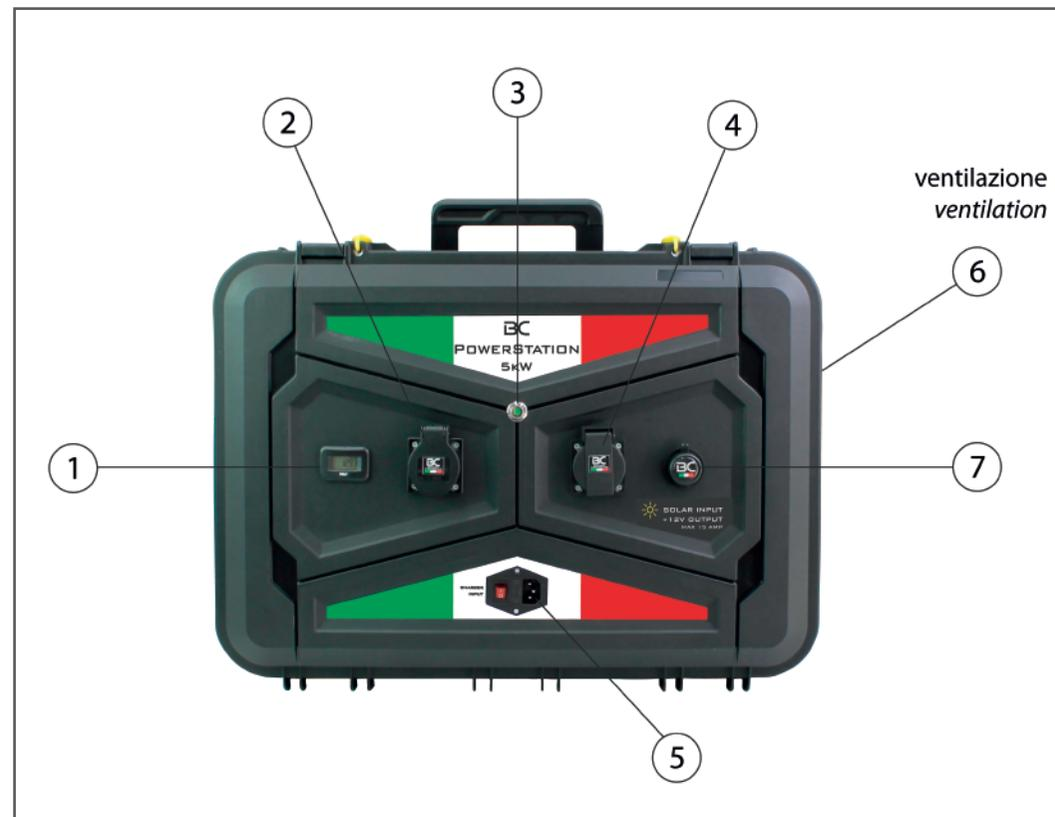

Figure 1 - BC Power Station 5kW image of the product
- The outputs (2) and (4) as well as the charging input (5) (see photo Figure 1) must never be short-circuited.
- Do not touch electrical connections and contacts (points (2), (4) and (5) of the photo Figure 1) with metal objects or with your fingers (or other parts of the body).
- Ensure that the ventilation inlets (6) (see photo Figure 1) are free from external obstacles that could hinder the correct ventilation and cooling of the product itself.
- **Do not connect multipolar sockets** to any of the two sockets (2) and (4) (see Figure 1).
The BC PowerStation 5kW device was conceived and designed for the 230Vac 50Hz power supply of mobile terminals and power tools in general (for example: drills, milling machines, lamps) from connection points (2) and (4) shown in Figure 1.
Moreover, 12Vdc cigarette lighter socket (point 7 of Figure 1) is present as well featuring the following functions:
Battery recharge protection	230Vac 0.63 A delayed fuse inserted in the power socket (point 5 of Figure 1)
Connection socket (point 2 in Figure 1)	Schuko type EU Class I 230V 50Hz 11Amp, pure sine wave
Connection socket (point 4 in Figure 1)	Italian type Class II 230V 50Hz 11Amp, pure sine wave
Connection socket (point 7 in Figure 1)	Fuse protected connection to the battery internal to the device. Maximum current : 15 Ampere.
With reference to the image shown in Figure 1, the following salient elements of the product can be found:
Afterward, connect the tools to the connections sockets (2) and (4) shown in Figure 1, then press the power button (3) indicated in Figure 1.
- Connect the power cord provided with the kit to the front panel socket of the device (point 5 of Figure 1);
- Turn on the switch on the panel socket (point 5 of Figure 1) and check that the red internal light gets on / becomes active;
- Monitor the voltage on the voltmeter (point 1 of Figure 1) and turn off the recharge in the following conditions:
- Connect the solar panel (optional) to the PowerStation itself using the cigarette lighter socket (point 7 of Figure 1);
Press the button (point 3 of Figure 1) so that the entire / movable part of the button itself remains in an internal / recessed position with respect to the body of the button itself.
After switching on the device, you can also hear a short acoustic beep which informs you that the device itself has been switched on: starting from this moment onward the two sockets (points (2) and (4) of Figure 1) are active and they supply a 230Vac 50Hz power supply to any users connected to them.
Press the button (point 3 of Figure 1) so that the entire / mobile part of the push-button itself remains aligned with the body of the button itself: starting from this moment onward the two sockets (points (2) and (4) of Figure 1) are no longer active and do not supply any power to any users connected to them.
The panel voltmeter (point (1) in Figure 1) provides indications on the voltage at the battery terminals. If the product is kept off and the voltage reported by the voltmeter is less than 13.0V, the battery has a residual charge of less than 30% and therefore needs to be recharged.
- Disconnect any load connected with the connection points (2) and (4) indicated in Figure 1.
- Make sure that the push-button, point (3) of Figure 1, is in the OFF position.
Voltmeter (point 1 of Figure 1) shows a voltage lower than 5.0V	The Battery Management System (BMS) incorporated in the battery has intervened in order to protect it and prevent it from being damaged. The intervention of the BMS may be related to the following causes: <ul style="list-style-type: none"> Excessive temperature / overheating of the battery; Excessive under-discharge of the battery; It is recommended to leave the battery resting for about 1 hour and recharge it as soon as possible.
Battery does not recharge	If the light of the power socket switch (point 5 of Figure 1) does not turn on, the power supply fuse is open/blown.
Utilities switch off and back on intermittently	An temporary/transient overload of the inverter inside the PowerStation has occurred. The disconnection of the power does not cause damage to the device, however it is recommended to reduce the power required on the wall sockets (points (2) and (4) of Figure 1).
- Make sure that the button, point (3) of Figure 1, is in the OFF position.